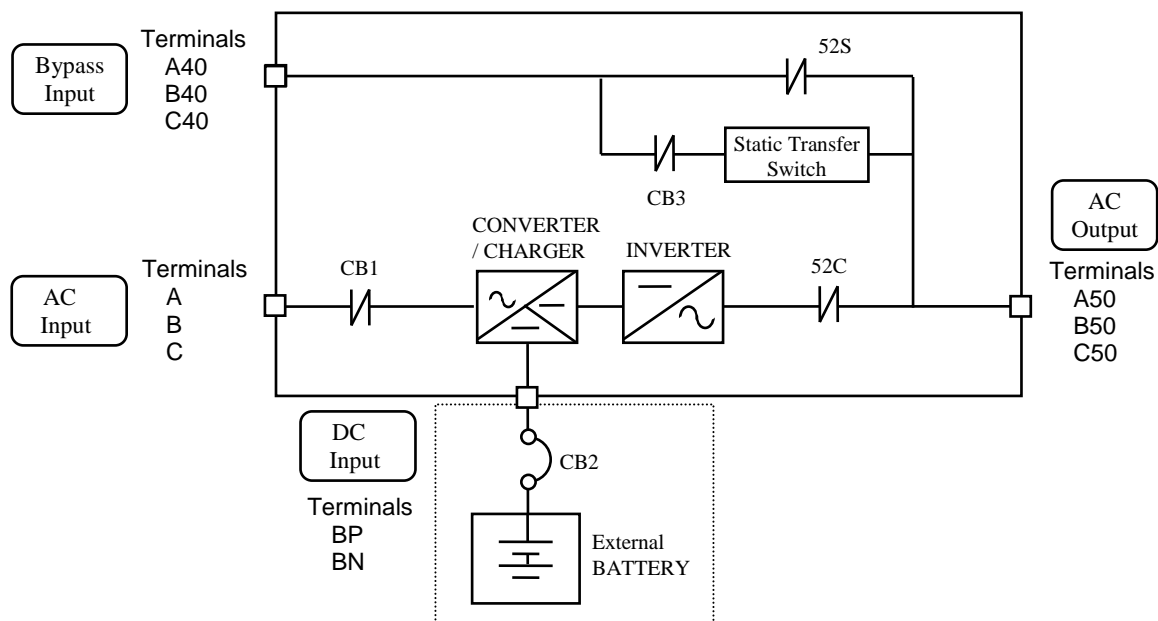
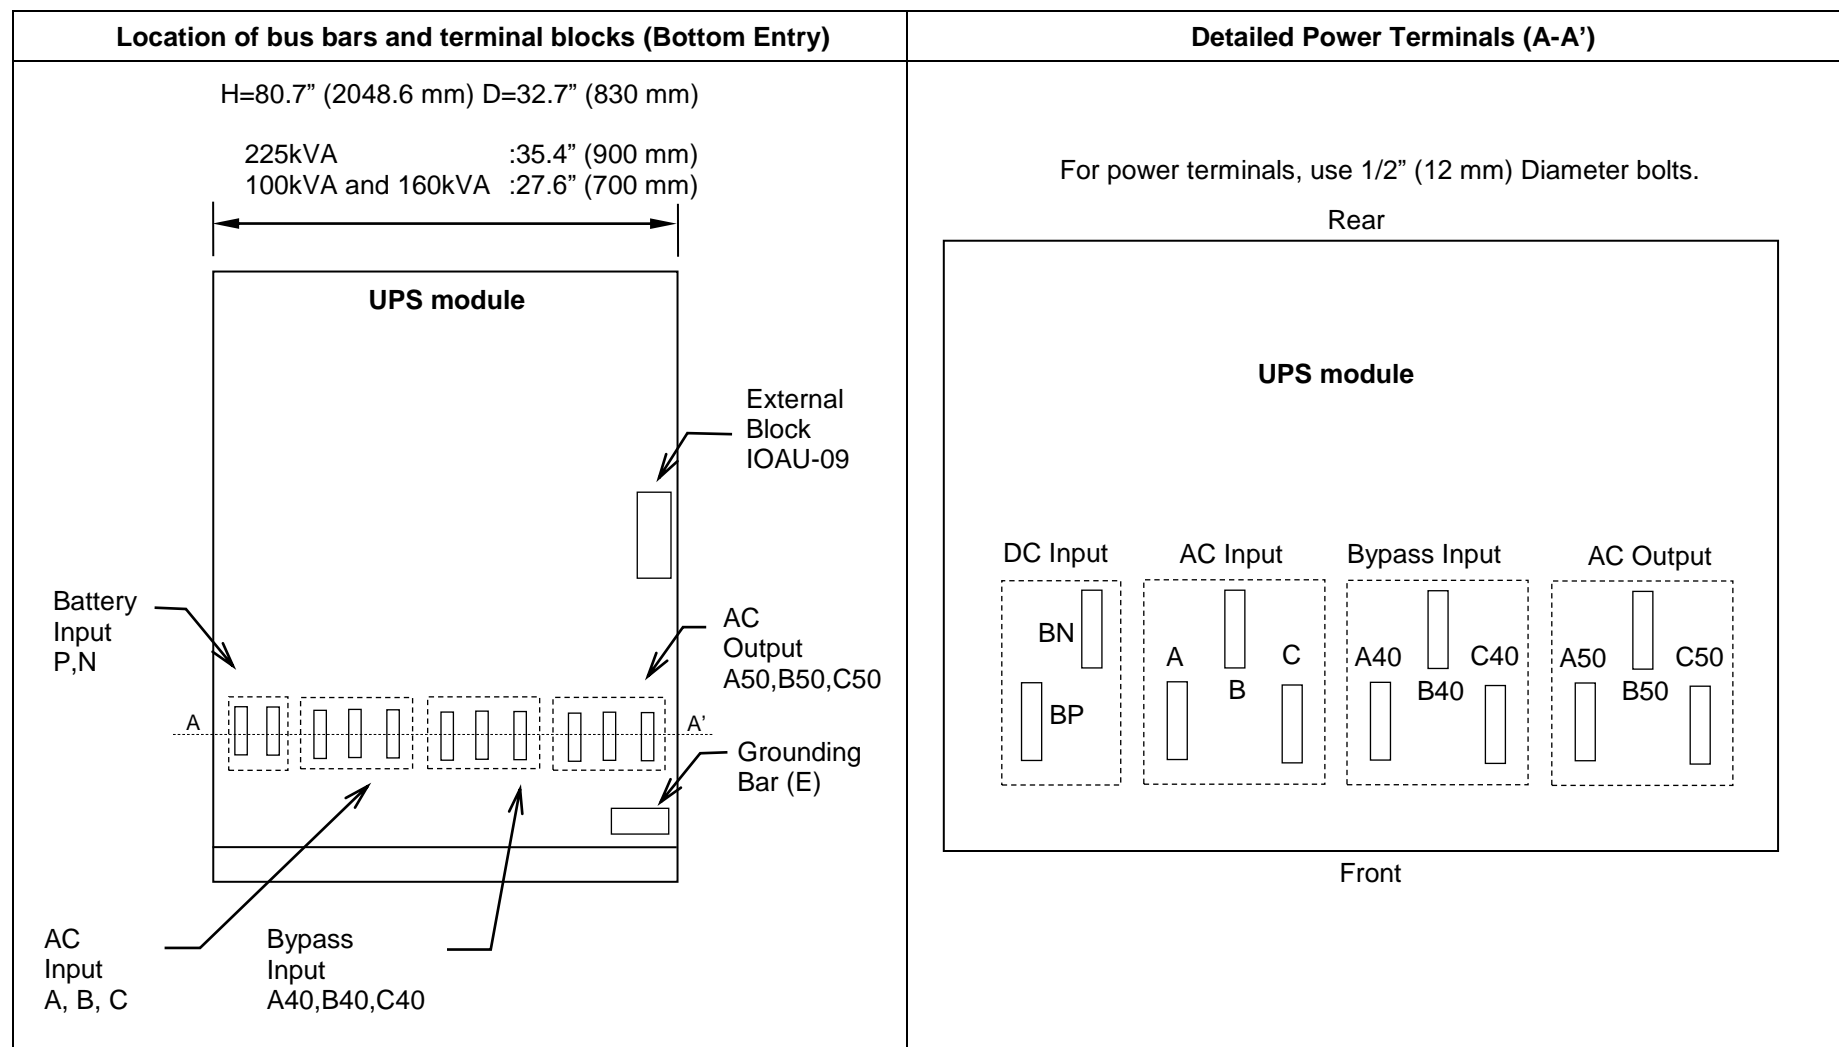

Figure 5-1 UPS Terminal Designations
Figure 5-2 Input/Output Bus Bars and Terminal Blocks
1. Confirm the capacity of the UPS being installed. Identify the input/output power terminal blocks accordingly as shown in the Figure 5-1 and Figure 5-2.
- (1) Connect the AC input power cables from the input service entrance to the AC input power terminals, identified as A, B, C in Figure 5-1 and Figure 5-2. Input cables must be sized for an ampere rating larger than the maximum input drawn by the converter. (Refer to equipment nameplate for current ratings.) Confirm that an external bypass input circuit breaker (MCCB) is installed (refer to WARNING 4, page 5). Connect the bypass input power cables from the input service entrance to the bypass input power terminals, identified as A40, B40 and C40 in Figure 5-1 and Figure 5-2. Bypass input cables must be sized for an ampere rating larger than the maximum output current capacity of the UPS. Refer to Table 5–4 for recommended cable sizes.
- (1) Confirm that an external input circuit breaker sized to protect both the AC input and the bypass line is installed. (Refer to equipment nameplate for current ratings.) Connect the bypass input power cables from the input service entrance to the bypass input power terminals, identified as A40, B40 and C40 in Figure 5-1 and Figure 5-2. Input cables must be sized for an ampere rating larger than the maximum current capacity of the UPS. Refer to Table 5–4 for recommended cable sizes.
- (2) Using adequately sized conductors and referring to the appropriate Figure identified in Figure 5-1 and Figure 5-2, connect jumper bypass terminals A40, B40, C40 to AC input power terminals A, B, C as identified in Figure 5-1 and Figure 5-2.